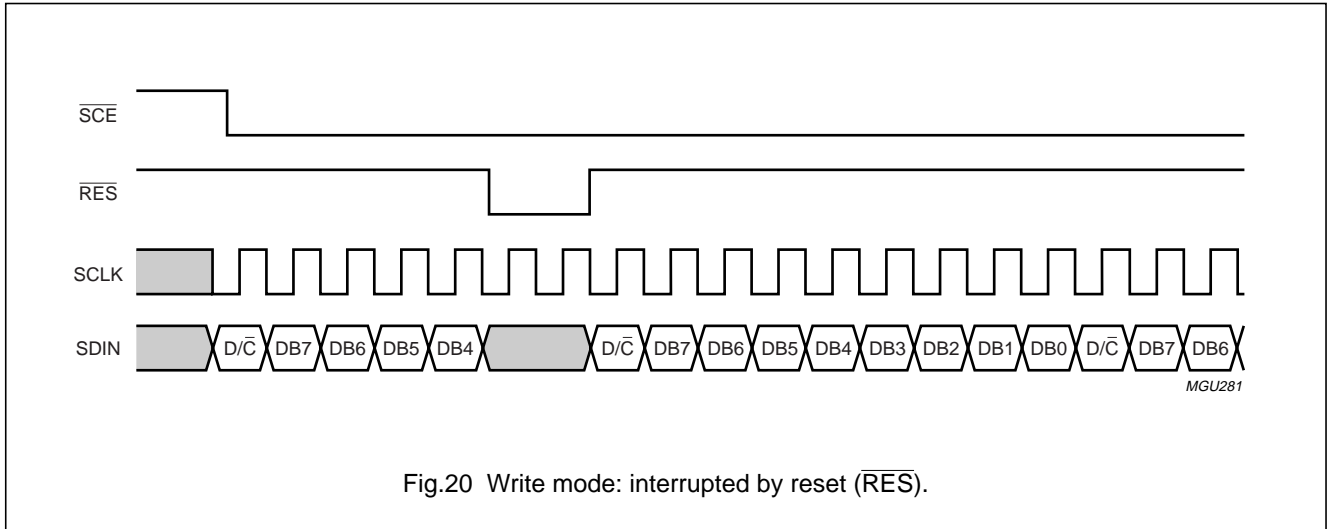

Fig.20 Write mode: interrupted by reset (\overline{RES}).
- A reset pulse \overline{RES} interrupts the transmission. The data being written into the RAM may be corrupted. The registers are cleared. If \overline{SCE} is LOW after the rising edge of \overline{RES} , the serial interface is ready to receive the D/\overline{C} bit of a $\overline{\text{command/data}}$ byte (see Fig.20).